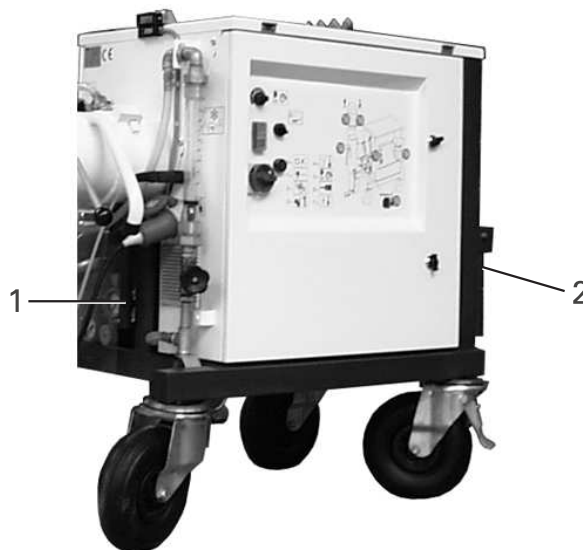

Fig. 13: Hand grips
- When moving the machine by hand, the mixing tube, compressor, spiral pump and accessories can be removed and transported individually. The frame itself is fitted with handles at various heights at both ends. (fig. 13)